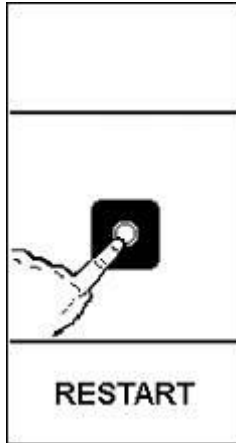

Figure 14 - Luminous display when the RESET button is turned on
When standard conditions are restored, that is following the closing of the doors, the resetting of the emergency push-button, or other, it will be necessary to restore the power supply connection to each device or electric motor. In such a situation, the display will show the image in Figure 14 .
- press and hold the ON / OFF button on the control panel for a few seconds Figure 4 ref. 3: the luminous display should light up, showing the image Figure 14